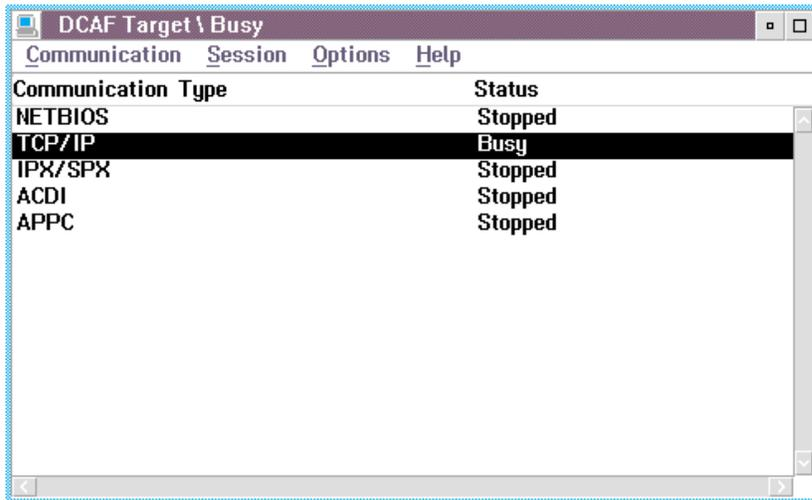

Figure 173. Changing Sessions
1. Press **Alt+T** on the Library Manager console. The DCAF Target window (Figure 173 on page 278) opens and shows that the target is busy.
1. If you have an active session, take control at the Library Manager by pressing **Alt+T**. The DCAF Target \ Busy window (Figure 173) opens.